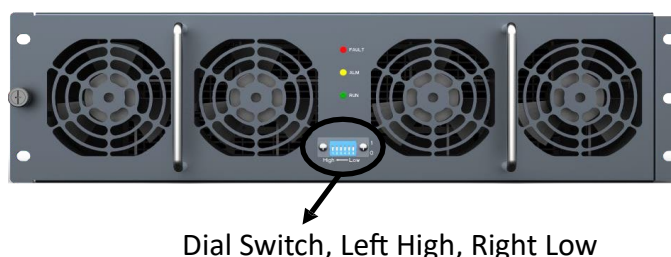

Figure 5.25 Front view of Power Module
- As shown in the following figure 5.25 and 5.26 below: